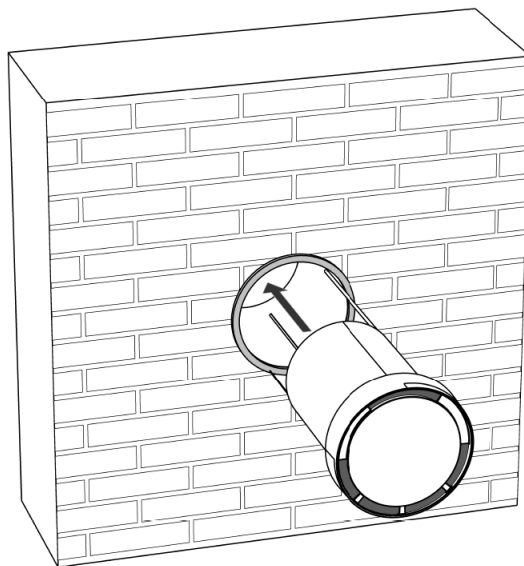

Figure 15 - Mounting of the outside hood
1. Push the outside hood into the wall from the outside, see Figure 15 below.